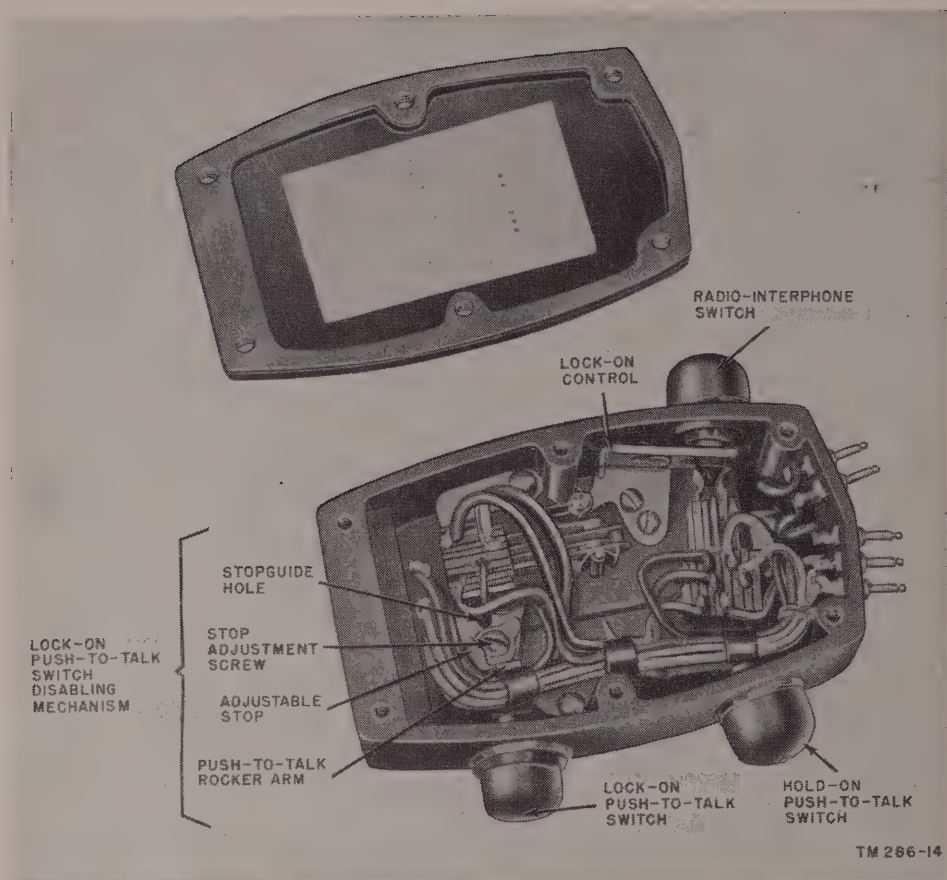

Figure 27. Chest Set Group AN/GSA-6, internal view.
- (2) Remove the cap which covers the TRANS ANT COUPLING control on the receiver-transmitter panel and turn the control completely counter-clockwise to obtain minimum coupling.
- (3) Press and hold the RADIO-INT and press-to-talk switches on the chest set. It may be more convenient to lock the RADIO-INT switch in the RADIO position by means of the internal adjustment provided (fig. 27) and to press the lock-on push-to-talk button.